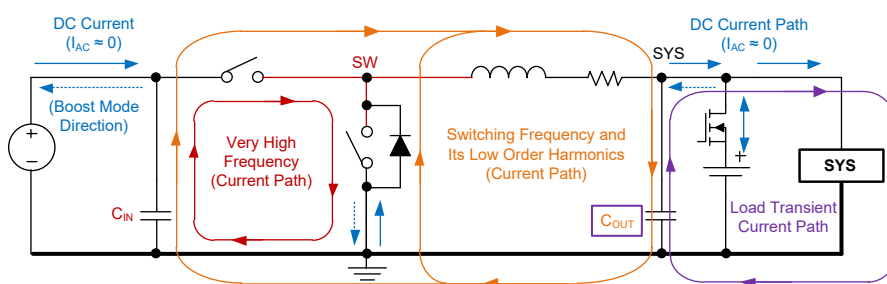

Figure 21. The Paths and Loops Carrying High Frequency, DC Currents and Very High Frequency (for Layout Design Consideration)
The switching node (SW) creates very high frequency noises several times higher than f_{SW} (1.5MHz) due to sharp rise and fall of the voltage and current in the switches. To reduce the ringing issues and noise generation, designing a proper layout is important to minimize the current path impedance and loop area. A graphical guideline for the current loops and their frequency content is provided in Figure 21. The following considerations can help making a better layout.